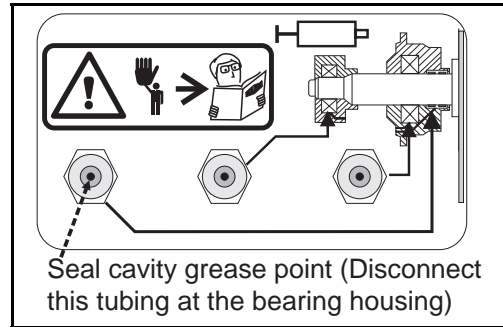

FIGURE 3 (MSSM0273AE)—Identifying the Seal Cavity Grease Point
1. Locate the tubing running from the seal cavity grease point to the bearing housing (FIGURE 3). Disconnect this tubing at the bearing housing.